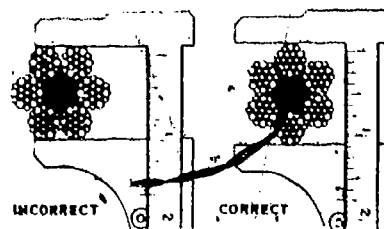

Fig 7-5. Wrong and right ways of measuring size of wire rope.
(4) Fabrication. Wire rope is designated by its method of fabrication as "preformed" or "nonpreformed." In preformed wire rope, the strands and wires are shaped to conform to the curvature of the finished rope and lie together naturally. Preformed rope does not tend to untwist when the rope is cut, and is more flexible. In nonpreformed rope, the unshaped strands are simply twisted around the core, and will untwist at the ends if they are not tightly seized.
c. Size. A wire rope is always designated as to size by its diameter in inches, measured as shown in the right-hand view of figure 7-5.